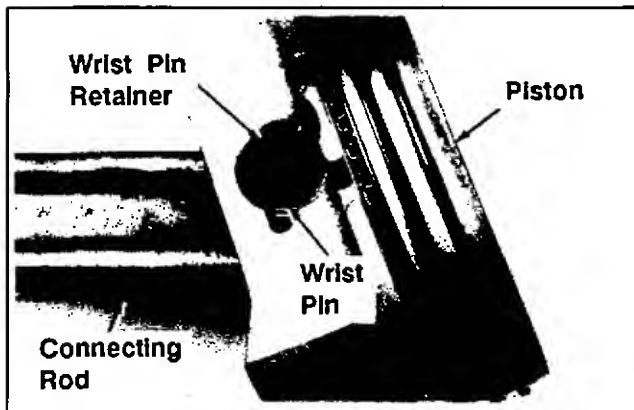

Figure 9-31. Removing Piston From Connecting Rod.
1. Remove the wrist pin retainer and the wrist pin. Separate the piston from the connecting rod. See Figure 9-31.